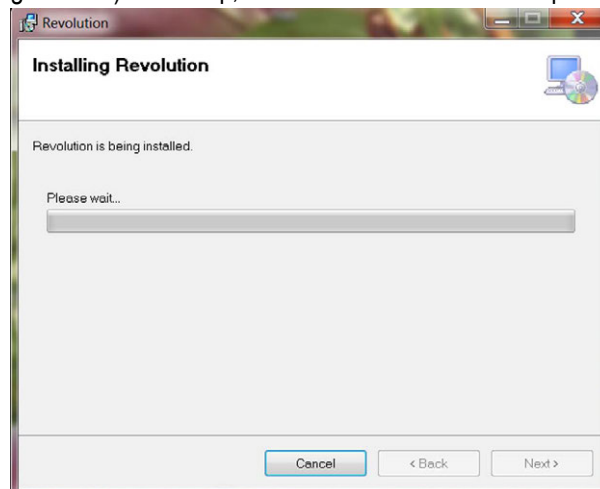

Figure 4-39. Installing Revolution Screen
7. The **Installing Revolution** (Figure 4-39) comes up, wait for the download to complete.